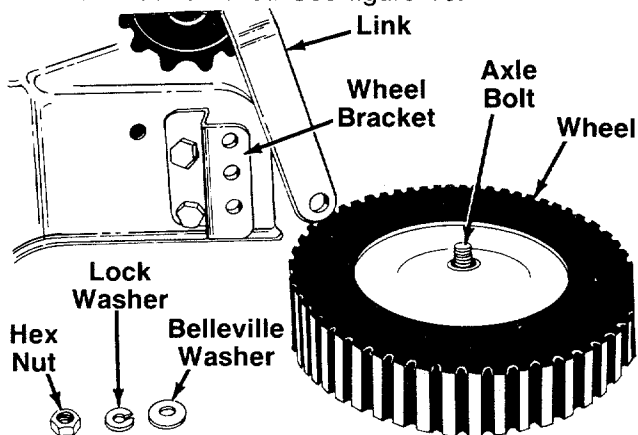

FIGURE 16.
2. Reassemble in selected hole. The belleville washer must be assembled between the link and wheel bracket, with the cupped side of the washer against the wheel bracket. See figure 16.